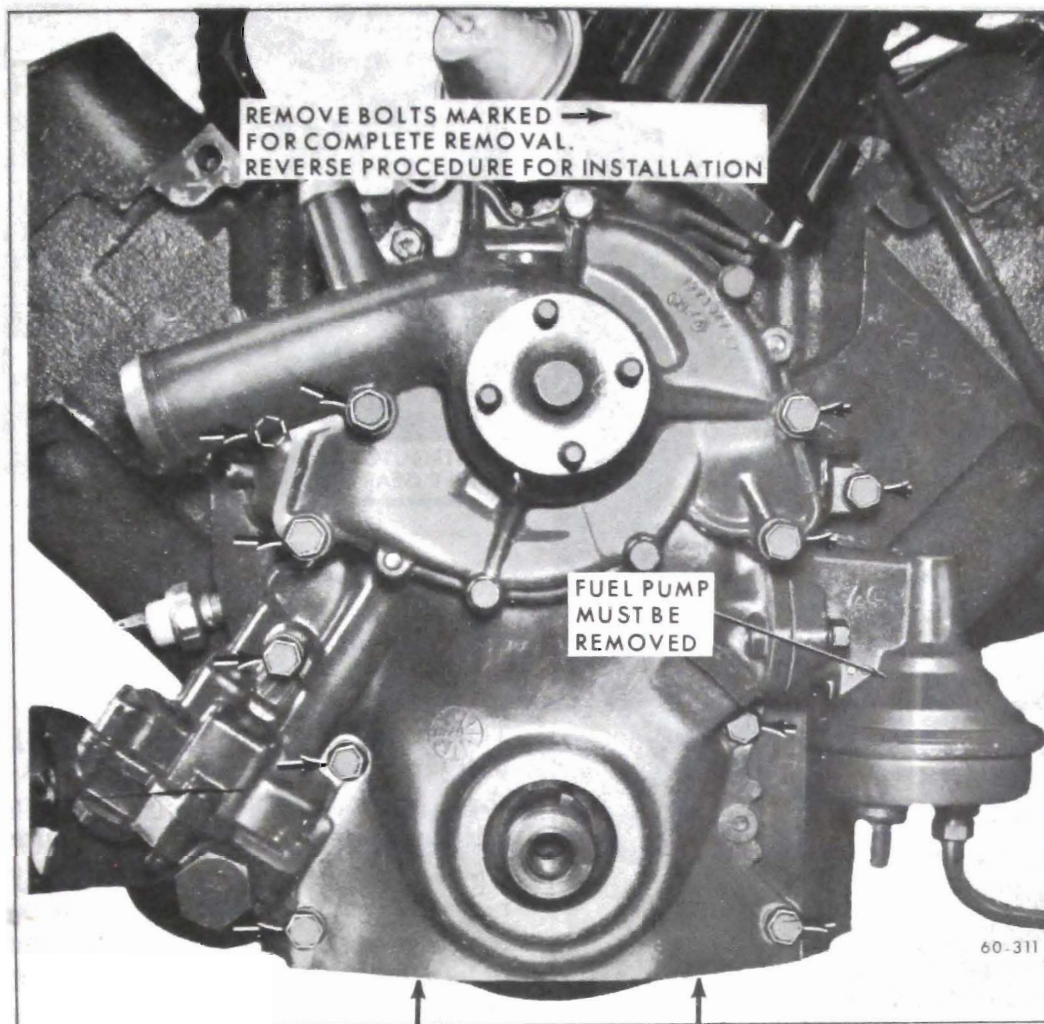

Figure 60-241 Timing Chain Cover Removal and Installation
11. Remove bolts attaching timing chain cover to cylinder block. See Figures 60-241 and 60-242. Remove two oil pan to timing chain cover bolts 350 Cu In. and 4 bolts on the 455 Cu. In. Remove timing chain cover assembly and gasket. Thoroughly clean the cover, taking care to avoid damage to the gasket surface.
4. Lubricate the bolt threads before installation and install as shown in Figures 60-241 and 60-242.